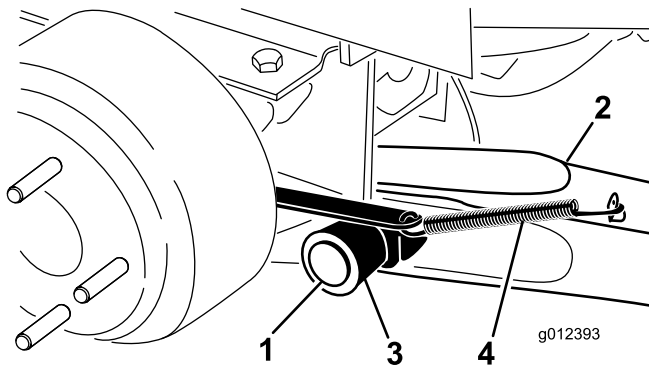

Figure 2
4. Mount a lift arm to the pivot bracket with a pivot pin and a cotter pin (Figure 2). Mount the lift arm with the bend positioned outward.
5. Hook the brake return spring to the tab on the lift arm (Figure 2).